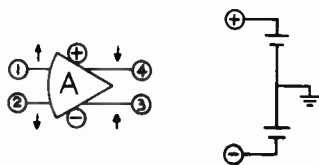

Fig. 5. Summary of notation introduced.
If it is understood that pin (2) and/or pin (3) may not be present, Fig. 5 is a concise summary of the notation introduced. The arrows denote the "direction" of the polarity at each terminal.